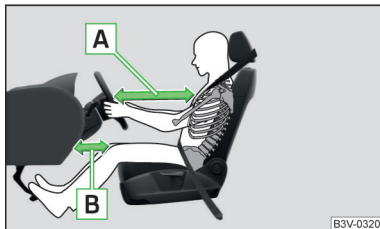

Fig. 9
- For the driver and front passenger it is important to maintain a distance of at least 25 cm to the steering wheel or the panel » Fig. 9 - A. If you do not keep this distance, it means that the airbag system cannot protect you - there is a risk to life! The front seats and the head restraints must always also be correctly adjusted to match the body size of the occupant.
- Adjust the driver's seat in a forward/back direction so that there is a gap of at least 10 cm between the legs and the dashboard in the vicinity of the knee airbag » Fig. 9 - B. If it is not possible to meet this requirement due to your body size, visit a specialist garage.